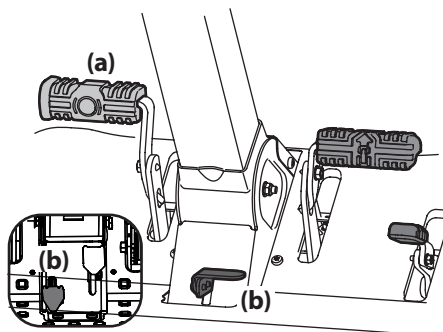

Figure 3-3
2. Engage the parking brake by pressing forward on the brake pedal (a), then press down on the parking brake/cruise control lever (b) and then release the brake pedal (a). Refer to Figure 3-3.